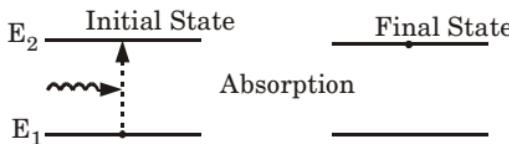

Fig. 12.
4. Fig. 12 illustrates a two energy state where an atom is initially in lower energy state E_1 .